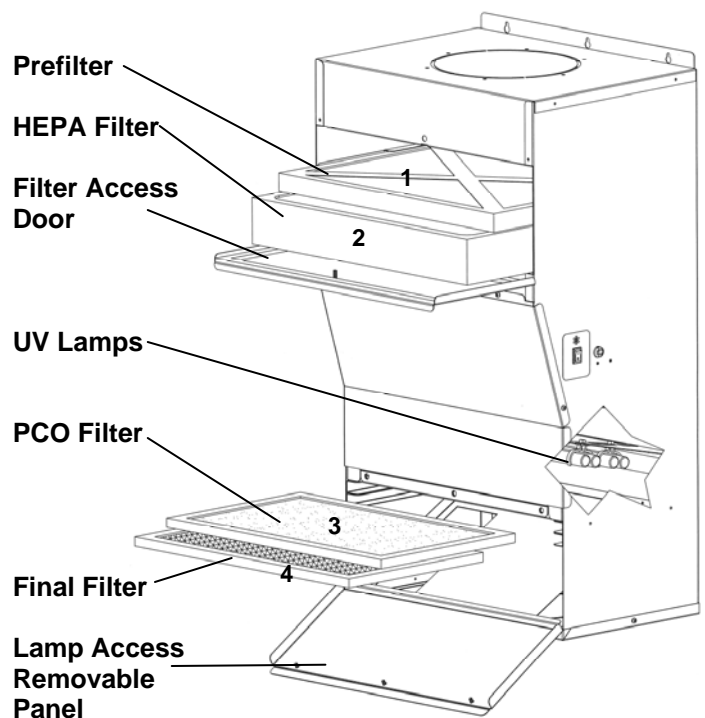

Fig. 5 – Air Cleaner Layout
1. Install the two UV lamps into the lamp holders. Follow the instructions given in the maintenance instructions. Use the cotton gloves provided when handling the lamps. Replace the four filters (see Fig. 5), close the filter access door and replace the lamp access panel. **Ensure all the screws are in place and tight.** Do not over tighten.